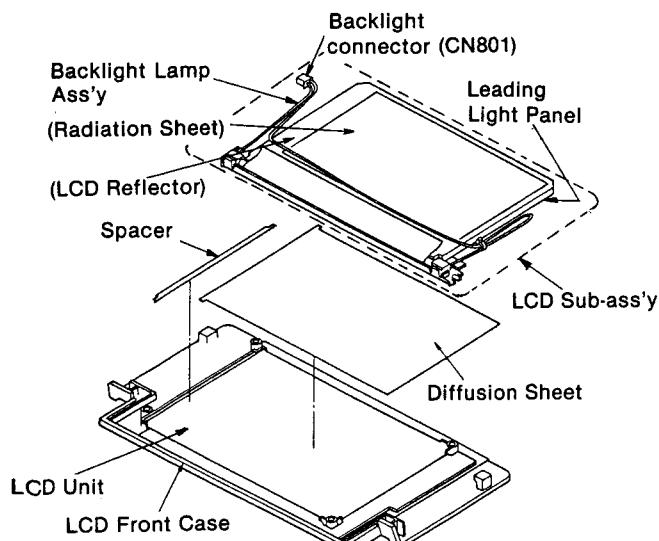

Figure 32
- (10) Disconnect backlight connector (CN801).
- (11) Gently lift up the LCD sub-ass'y, and then remove the spacer, diffusion sheet and LCD unit from the LCD front case as shown in Figure 32.